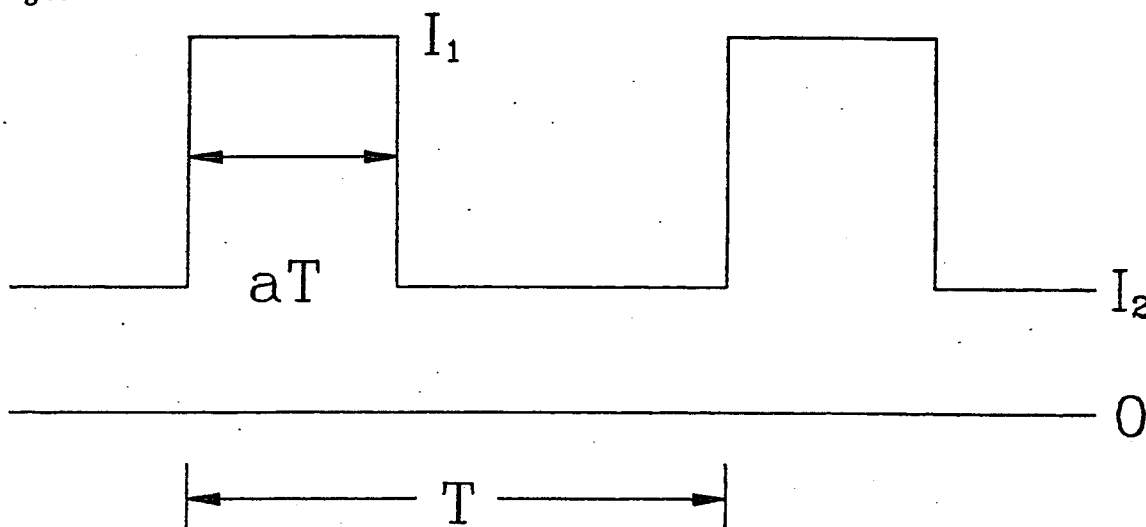

FIGURE 1 DETERMINATION OF THE EFFECTIVE OUTPUT CURRENT FOR THE MRW 145KV
(1) Output #2 follows the adjustment of output #1 (2) mV p-p max. (3) When V2 load current exceeds 1.5 Amps, it must not continue for more than 3 seconds and the effective current must be less than 1.5 amps (see Figure 1).